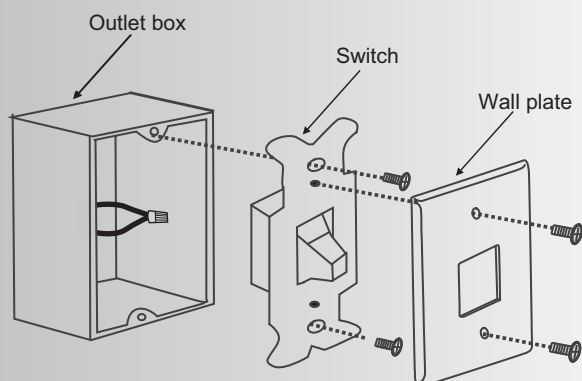

Fig. 25
Step 1. Remove the existing wall plate and the old switch from the wall outlet box. Wire nut the **BLACK** leads (hot) together and push back inside the outlet box. (Fig. 25)